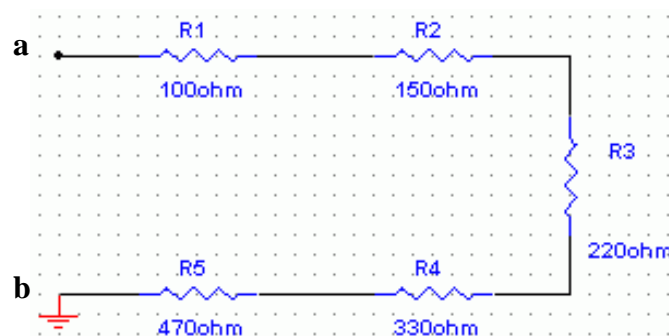

Figure1. Measurement with multimeter
1. Draw Figure 1 using the Multisim simulation software. Connect the multimeter as ohmmeter between 'a' and 'b'. Click the simulate switch to run analysis. Record the measured resistance. Calculate the total value just by addition and record it.